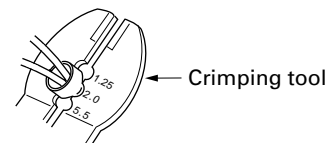

Fig.6
- (4) As shown in Fig.6, use the crimping tool to crimp the metal sleeve at the center position. Be sure to crimp fully to the complete closure of the tool.